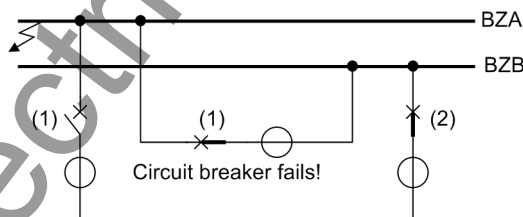

Figure 5-27 Fault on bus zone BZ A and failure of the bus coupler circuit breaker
If a busbar short-circuit occurs with the bus coupler closed (Figure 5-27, page 125), a TRIP command is issued to all related feeders of this zone and to the coupling bay units. (1)